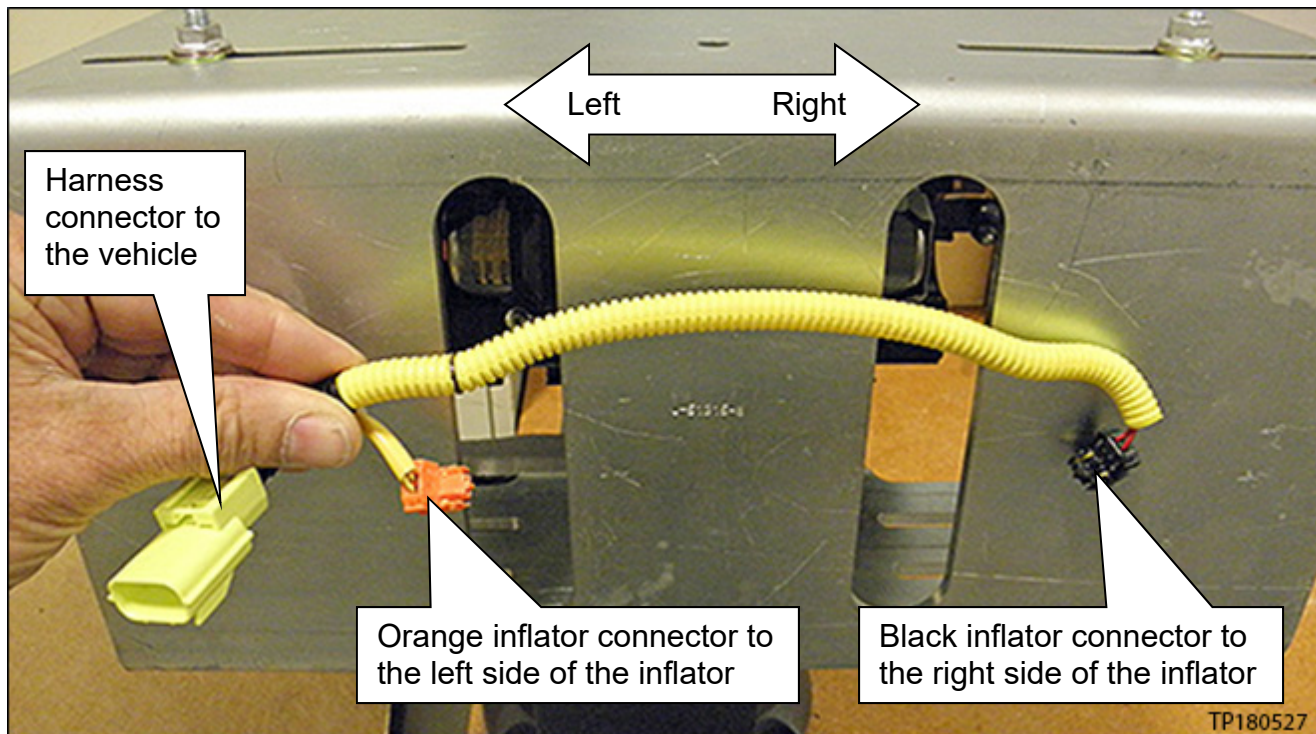

Figure 22
- **Make sure to attach the connectors to the correct ends of the inflator (see Figure 22).**
- Left / Right orientation is as shown in Figure 22.
- Make sure to attach the correct ends (see Figure 22 on the previous page).
- Refer to Figures 22 and 23.